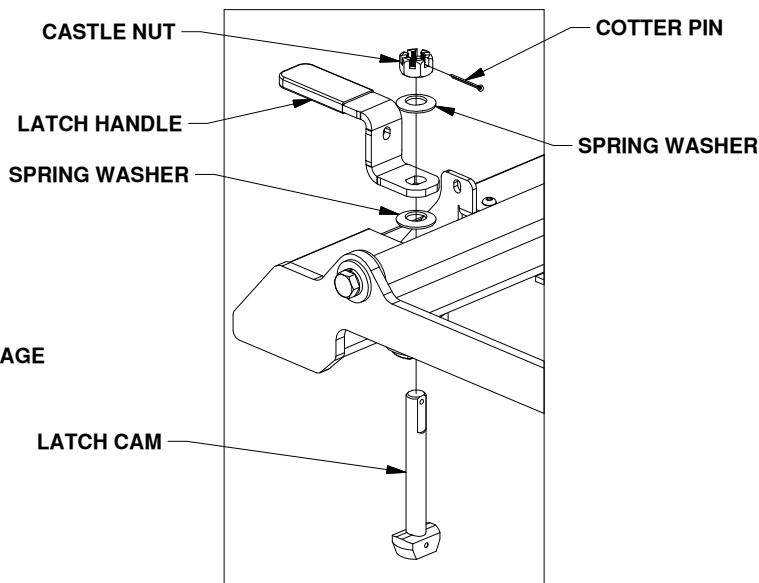

FIGURE B3: List of latch parts.
3. **Adjust the tension in the latch handle**, for parts list and visual guide refer to figures B3 and B4.